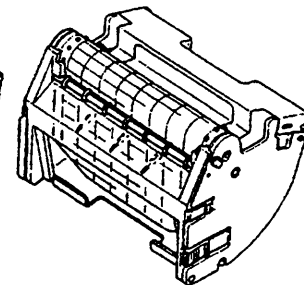

Figure 5.6 Chart Paper Loaded
- (9) Place the front transparent chart guide back into position. (see Figure 5.6.)